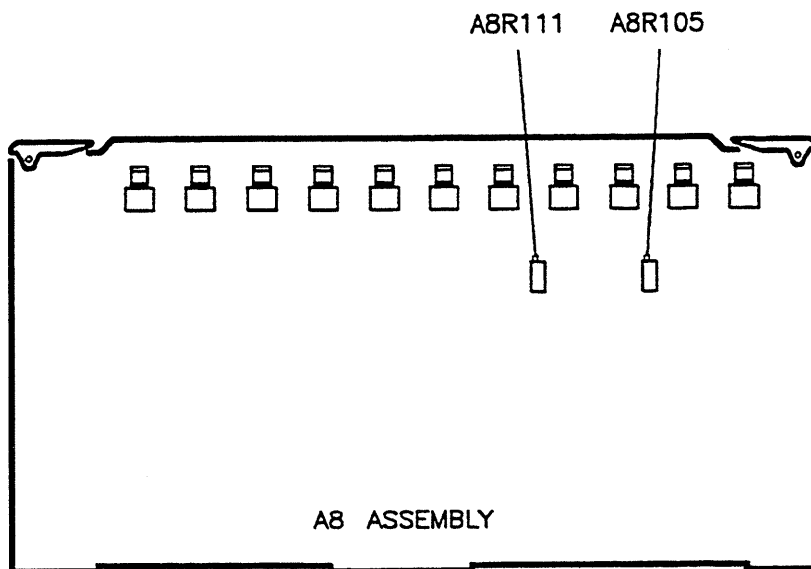

Figure 3-27. A8R111 and A8R105 Adjustment Locations
4. Adjust A8R111 (see Figure 3-27) to center the “needle” on the display.
6. Adjust A9R105 (see Figure 3-27) to center the "needle" on the display.